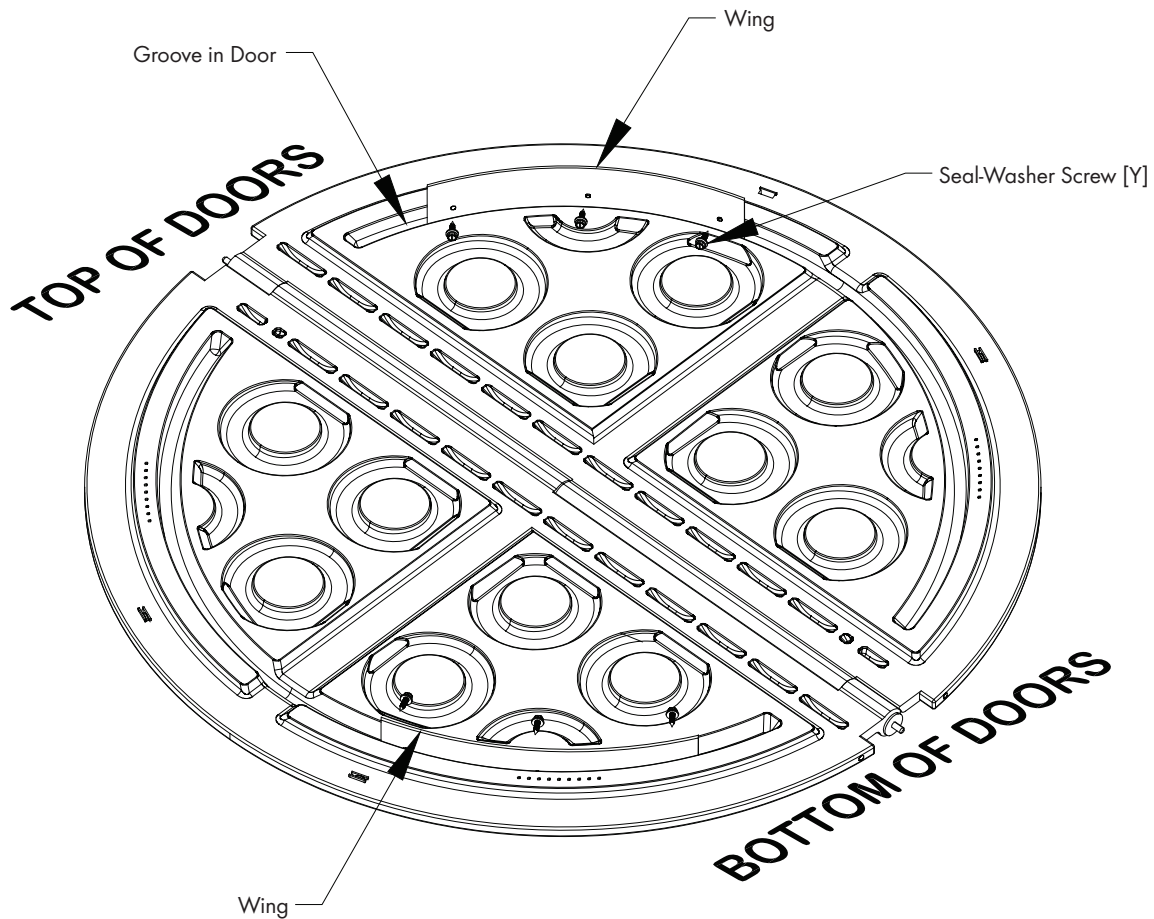

Figure 11
Carefully remove folded door assembly from box. Open doors and lay them flat on solid surface with the Munters Logo down. The Bottom of the doors has the Hinge Pin with the Nylon Washers. For the WM36 and WM54 the Wing sits down in the Groove of the upper right and lower left doors. For the WM36 the Wing will be in the groove centered on the half-circle shape. For the WM54 the Wing will start just after the last spring mounting dimple and follow the Groove. Make sure Wing is seated in bottom of Groove and fasten in place using (3) Seal-Washer Screws [Y] per wing. Make sure Hinge Pins do not fall out. See Figure 11.